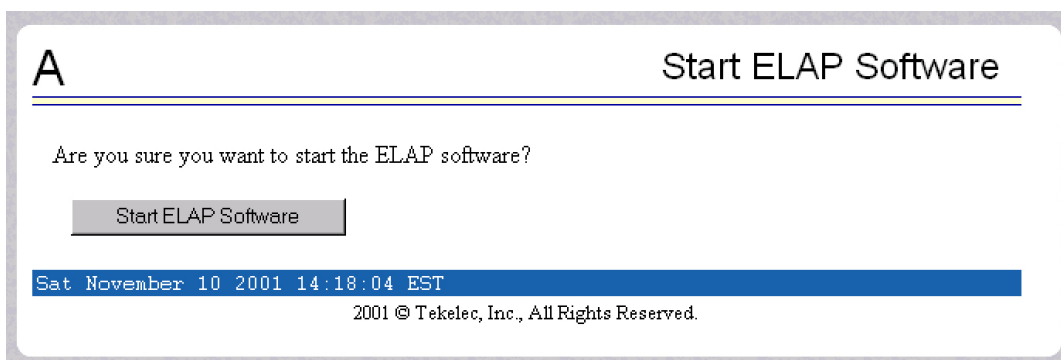

Figure 3: Start ELAP Software
7. On the Start ELAP Software screen as shown in Figure 3: Start ELAP Software, click **Start ELAP Software**.